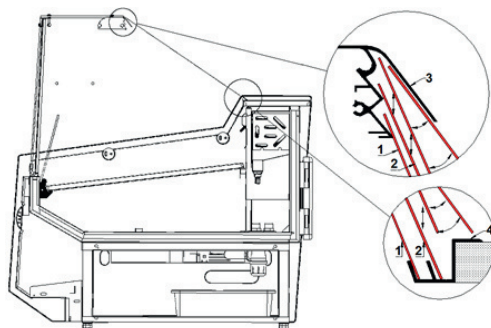
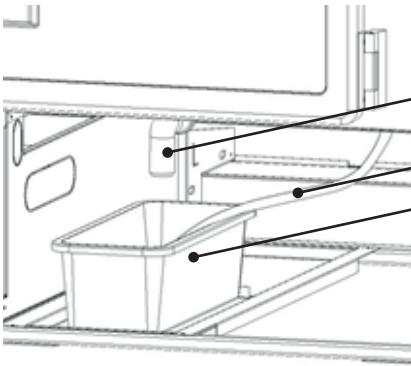

Fig. 5. Assembly/disassembly of night shutters
Fig.6 Condensate container (version without evaporator)
- Mount display shelves or fish tanks, hanging them on aluminium angle sections Fig.5/4;5 (p.19)
- Mount glass sides Fig.6/2;1 (p.20)
NOTE: In case of “Gastro” display cabinets, it is necessary to pull out the universal salad tank before mounting the glass side Fig.5 (p.19), in order to obtain free access to ABS side and to enable easy glass side with the help of glass holding downs Fig.6/1 (p.20).
- Mount the aluminium lamp (together with lighting) on glass sides Fig.6/3 (p.20)
- Mount the casing of lamp conduit Fig.6/10 (p.20)
- Mount front screen Fig.6/8 (p.20)
- Mount front glasses of the display cabinet Fig.6/5 (p.20)
NOTE: If the thermostat display (for „Iglloo” thermostat) Fig.6/3 (p.15) only shows two dots at the bottom instead of the temperature, this means that no unit is attached (cooling function disabled). In this case, switch the cooling on/off button on the thermostat panel - see Fig.11/1 (p.19)!